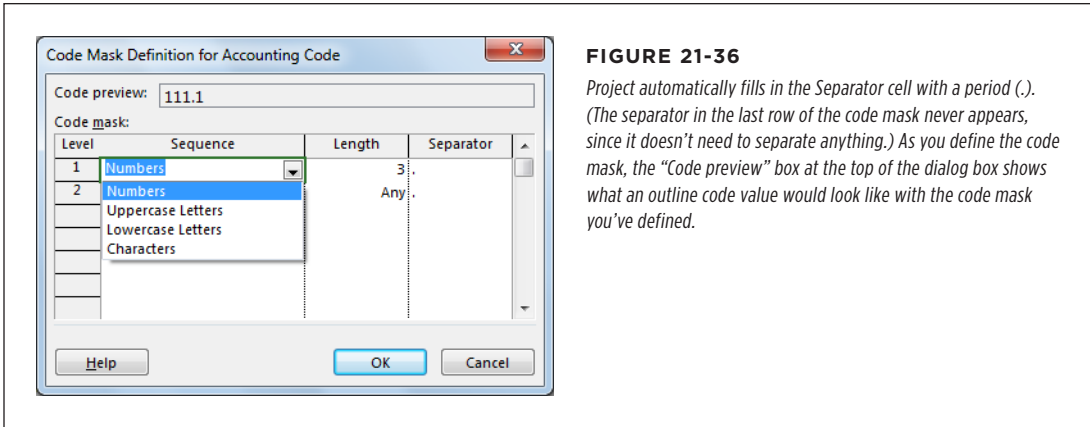

FIGURE 21-36
- 5. In the first Sequence cell, choose the type of characters you want for the top level of the hierarchy, as shown in Figure 21-36.**